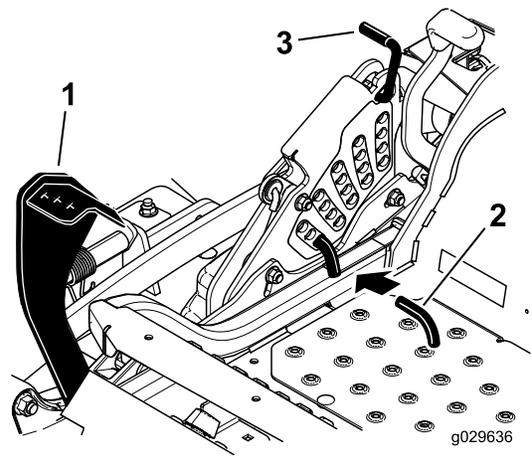

Figure 91
5. Push the deck-lift pedal all the way forward and the deck will latch at the 14 cm (5-1/2 inch) TRANSPORT position (Figure 91).